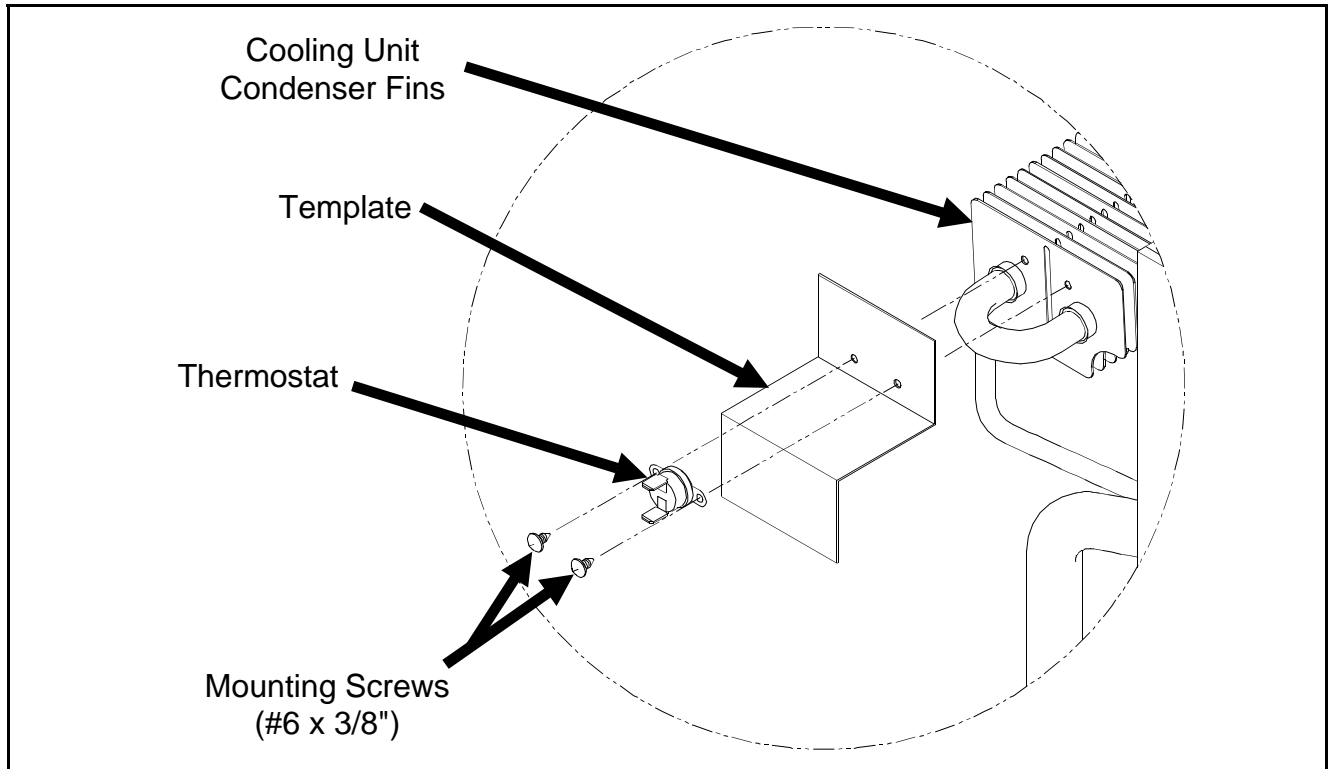

Figure 10 - Eurovan Ventilation Fan Installation
1. Align the provided template with the kit as illustrated in Figure 10
2. Using the 3/8" drill, 3/32" drill bit, and the provided template, drill two pilot holes as illustrated in Figure 10